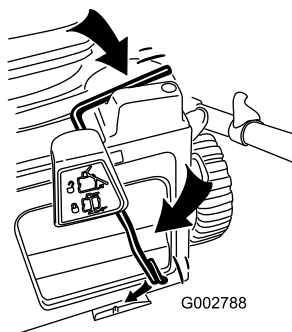

Figure 8
- Swing the lever into the switch channel and lever retainer (Figure 8).